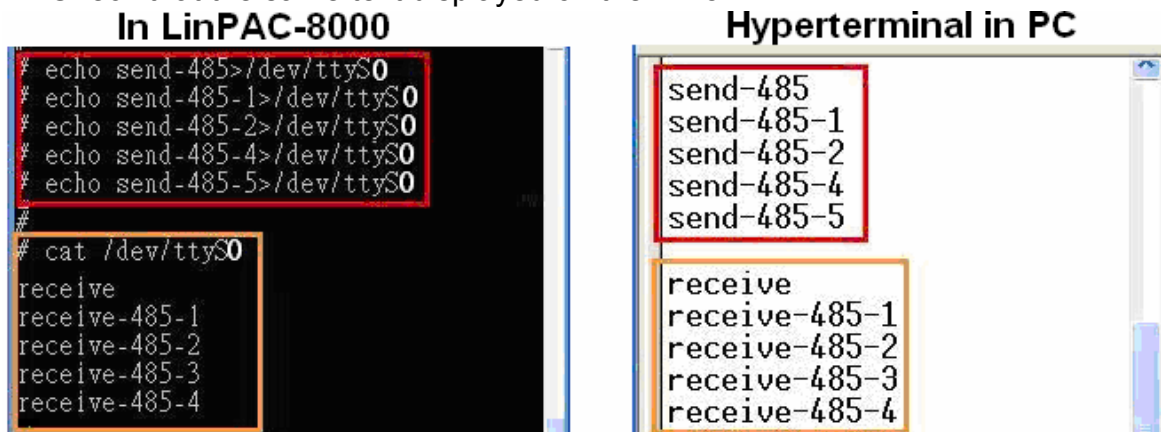

Fig. 8-3
- Test using command line: (PC <---> i-7520 <---> /dev/ttyS on the LP-8x21 - see Fig 8-3)